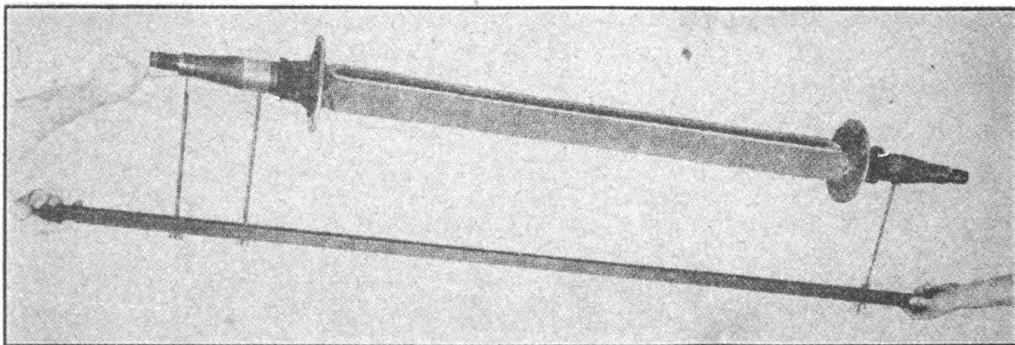

FIGURE 8. CHECKING AXLE FOR BEND.
3. CHECKING FOR BEND (Figure 8).—*a.* Place the axle gauge in position on the front side of the axle.